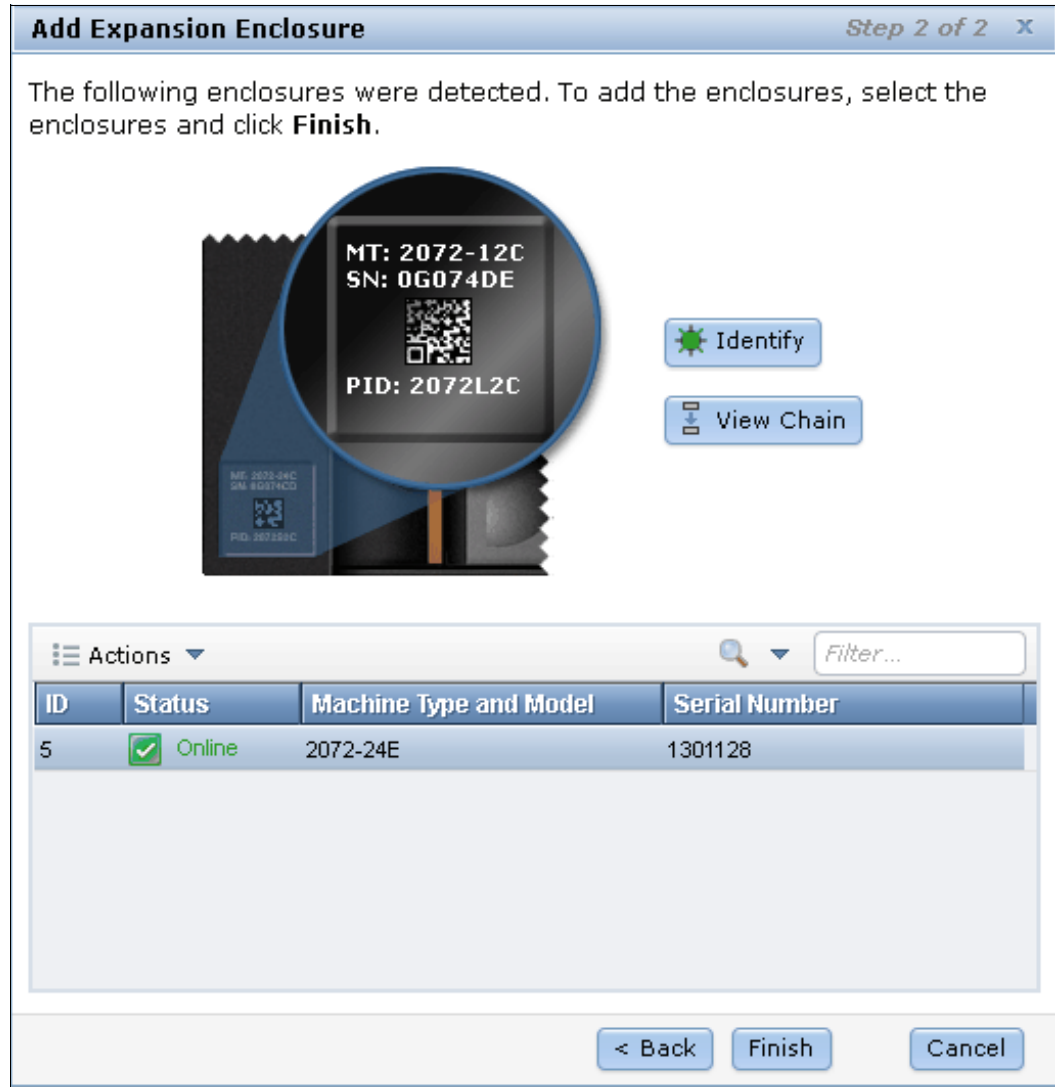

Figure 2-24 Finish enclosure add
5. To add the enclosure select the new enclosure and choose finish as shown in Figure 2-24 on page 49.